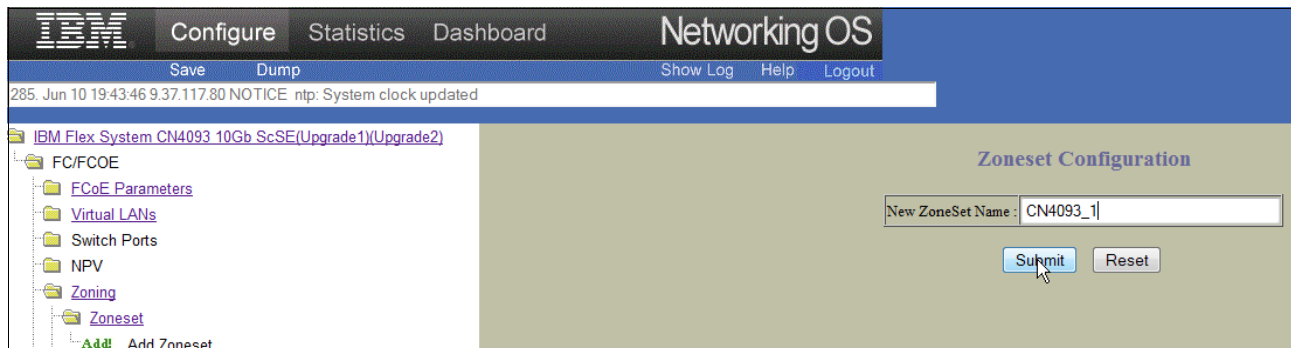

Figure 8-15 Zoneset name
14. Type the name of the new Zoneset (in our example, CN4093_1) and click **Submit** as shown in Figure 8-15.